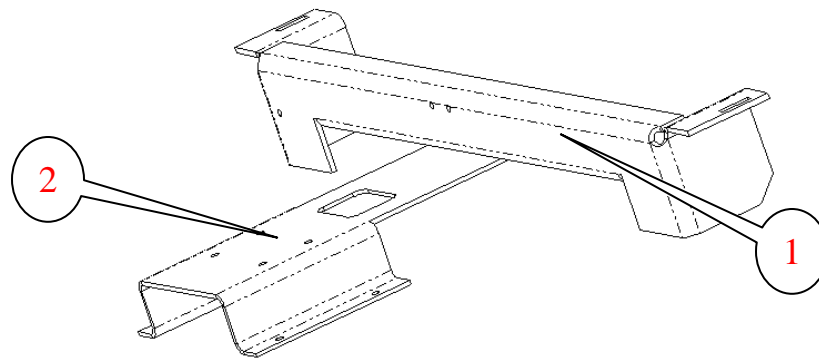

Figure 11.
If the rear cabinet support (1) has holes to mount the pump bracket (2), attach it with the bolts supplied. If installing the system on a machine that does not have the mounting holes in the cabinet support, wait to attach the pump until proper alignment is assured. In figure 11 below, only the pump bracket and cabinet support are shown for clarity.